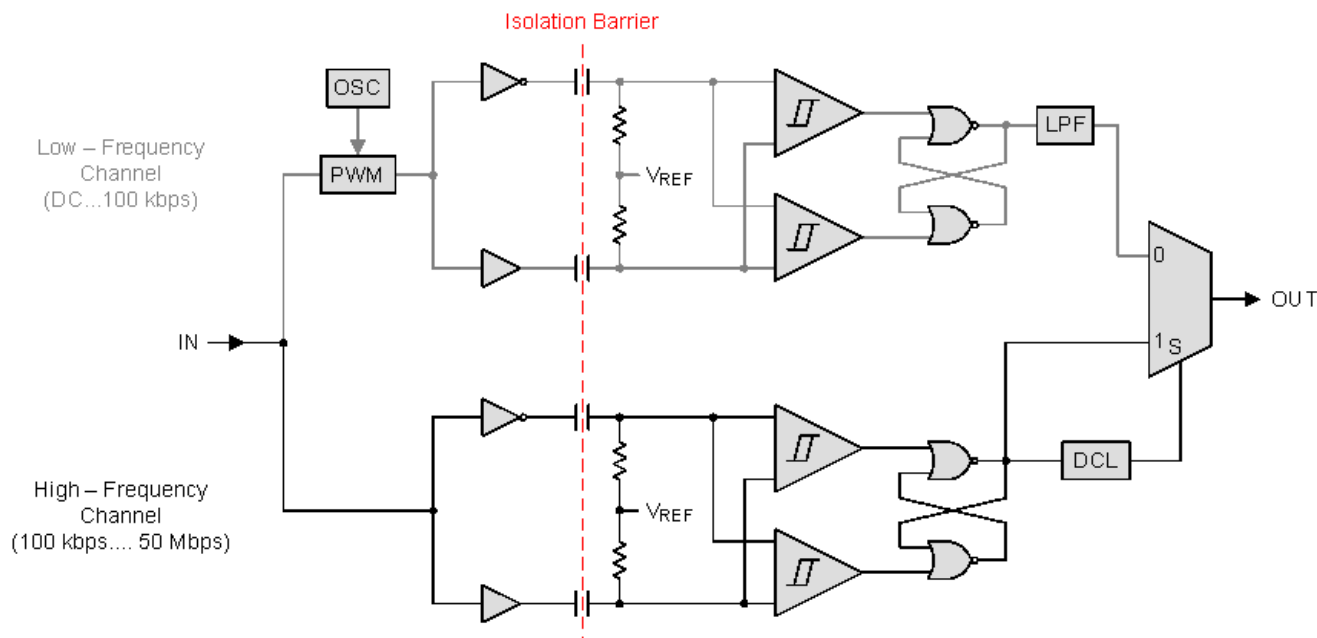

Figure 15. Conceptual Block Diagram of a Digital Capacitive Isolator
The isolator in Figure 15 is based on a capacitive isolation barrier technique. The I/O channel of the device consists of two internal data channels, a high-frequency channel (HF) with a bandwidth from 100 kbps up to 50 Mbps, and a low-frequency channel (LF) covering the range from 100 kbps down to DC. In principle, a single-ended input signal entering the HF-channel is split into a differential signal via the inverter gate at the input. The following capacitor-resistor networks differentiate the signal into transients, which then are converted into differential pulses by two comparators. The comparator outputs drive a NOR-gate flip-flop whose output feeds an output multiplexer. A decision logic (DCL) at the driving output of the flip-flop measures the durations between signal transients. If the duration between two consecutive transients exceeds a certain time limit, (as in the case of a low-frequency signal), the DCL forces the output-multiplexer to switch from the high- to the low-frequency channel.